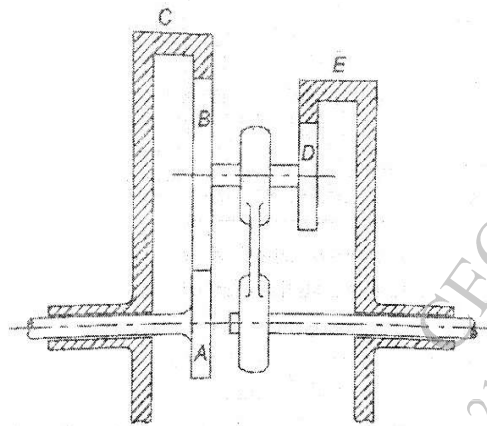

Figure.1
- Q4)** Figure. 1 shows an epicyclic gear train in which driving gear A has 20 teeth, the fixed annular gear C has 150 teeth and the ratio of teeth in gears D and E is 21:50. If 2 kW of power at a speed of 800 rpm is supplied to the gear A, determine the speed and the direction of rotation of gear E. Also, find the fixing torque required at the gear C. [10]